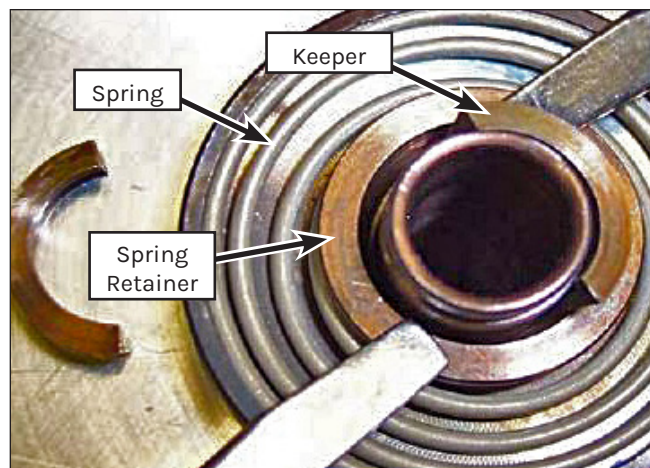

Figure 122: Spring Retainer Removal.
5. Press down on the valve spring retainer and slide the spring keepers out from the assembly (Figure 122).